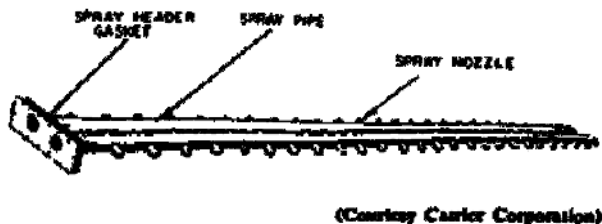

Figure 39. Solution sprayheader.
steps (1), (2), and (3) in the preceding paragraph. When this has been done, remove the solution spray header, being extremely careful that the spray nozzles do not strike the sides of the opening. Clean it by flushing. Any nozzles that are not clear should have the nozzle cap removed and cleaned individually. The old gasket material should be thoroughly removed from the spray header and a new gasket used when it is ready for reassembly. A solution spray header is shown in figure 39.